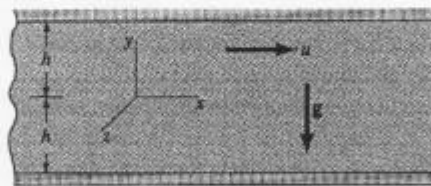

Figure 2
6. (20%) Find the velocity field  $\vec{V} = (u, v, w)$  of the steady laminar flow between two horizontal, infinite parallel plates as shown in Fig. 2.